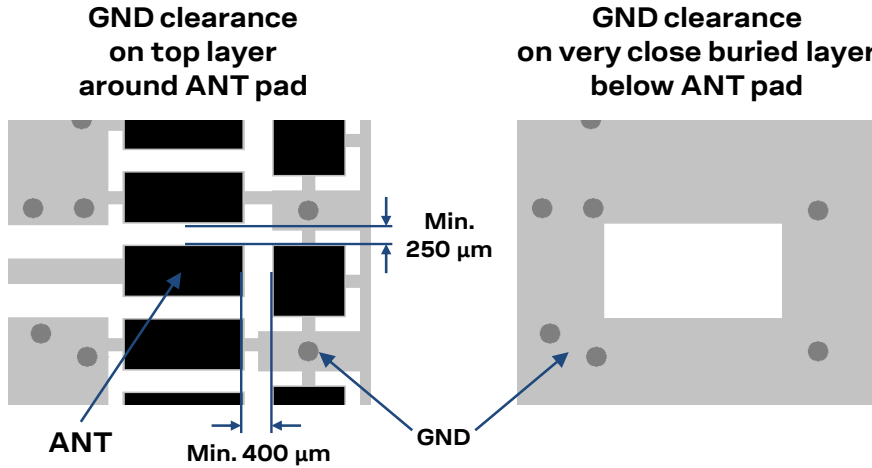

Figure 56: GND keep-out area on the top layer around the ANT pad and on the very close buried layer below the ANT pad
- Increase GND keep-out (i.e. clearance, a void area) around the **ANT** pad, on the top layer of the application PCB, to at least 250 µm up to adjacent pads metal definition and up to 400 µm on the area below the module, to reduce parasitic capacitance to ground, as described in the left picture in Figure 56
- Add GND keep-out (i.e. clearance, a void area) on the buried metal layer below the **ANT** pad if the top-layer to buried layer dielectric thickness is below 200 µm, to reduce parasitic capacitance to ground, as described in the right picture in Figure 56